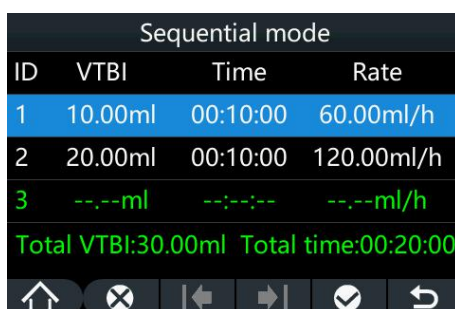

Figure 5-4
- Select menu “☰” option → “Mode” → “Sequential mode” to enter the interface as shown in Figure 5-4.